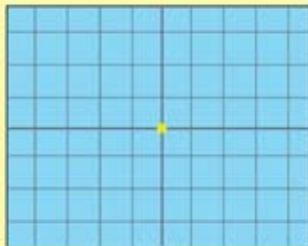

Figure 6.14
1. Switch on the C.R.O. and wait for a light spot to appear on the screen. Turn off the time-base knob. Turn the intensity control and focus control knobs to adjust the brightness and sharpness of the light spot shown in Figure 6.14.
2. Use the X-shift and Y-shift knobs to adjust the light spot so that it is at the zero position in the centre of the screen as shown in Figure 6.14.